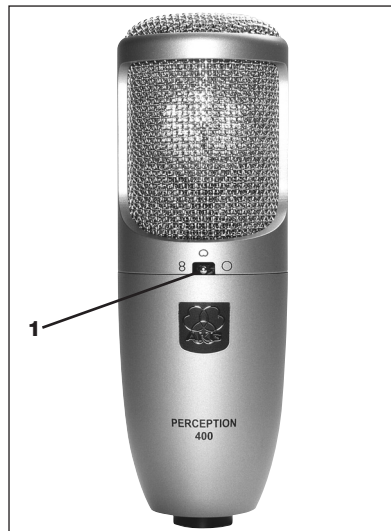

Fig. 5: Microphone front.
- **Cardioid** (center setting): This is a standard setting for recording and gives excellent results on all kinds of voices and a wide range of instruments. Remember to aim the microphone front (see fig. 5 on page 6) at the sound source.